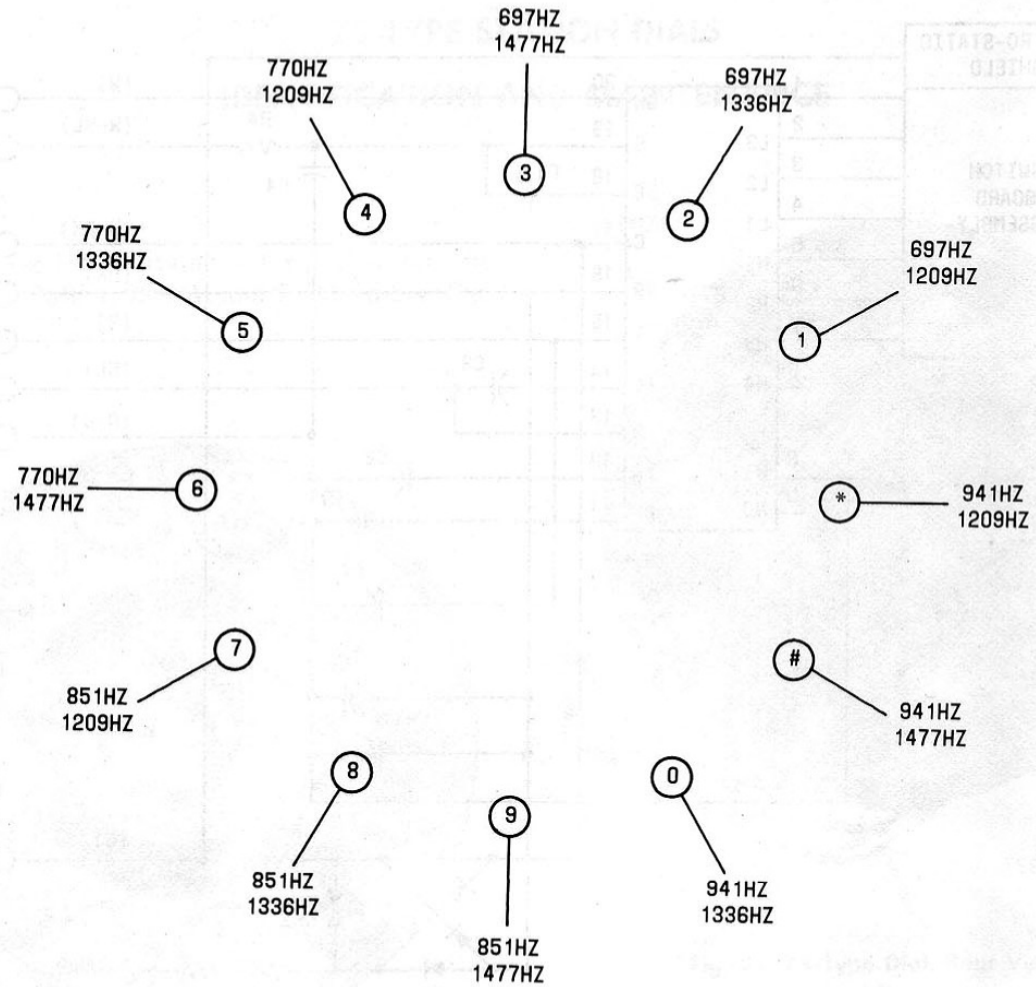
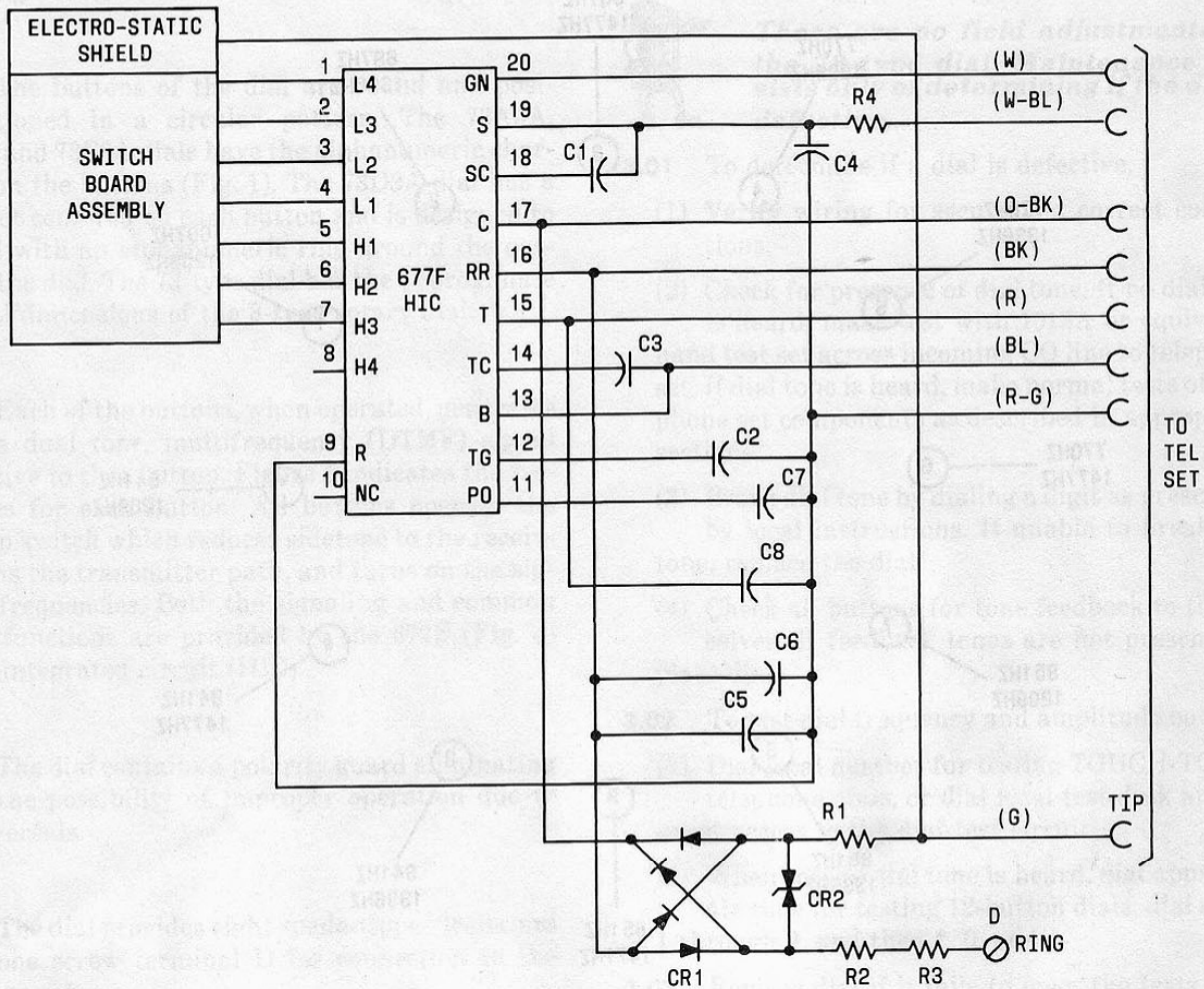

Fig. 3—Dial Frequencies
Fig. 4—73-Type Dial Schematic
**2.04** Each of the buttons, when operated, generates a dual tone, multifrequency (DTMF) signal distinctive to that button. Figure 3 indicates the frequencies for each button. All buttons operate the common switch which reduces sidetone to the receiver, opens the transmitter path, and turns on the signaling frequencies. Both the signaling and common switch functions are provided by the 677F (Fig. 4) hybrid integrated circuit (HIC).